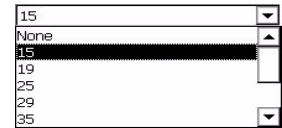

Figure 3.7 Otr Selection List
- **otr** – to choose another value from a selection list as illustrated in Figure 3.7. However, one of these values usually is not selected. (To return to the screen from this list, select **None**.)